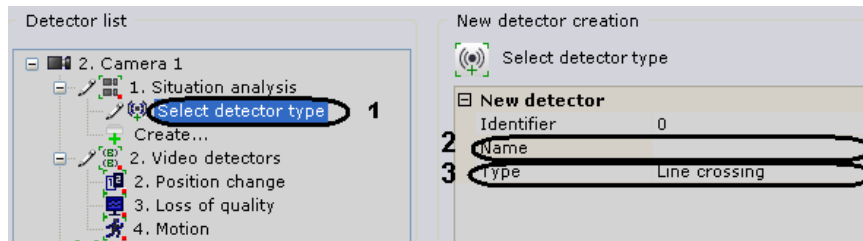

Fig. 6.5—7 Selecting detector type
3. In the **Name** field (see Fig. 6.5—7, 2), enter the detector name which will appear in the detector list and the viewing tile.